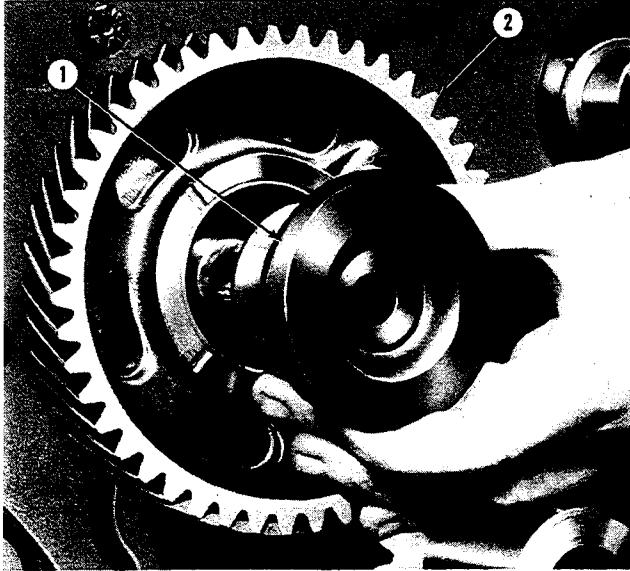

Figure 32
2. Remove the adapter and camshaft drive gear. Refer to Figure 32.